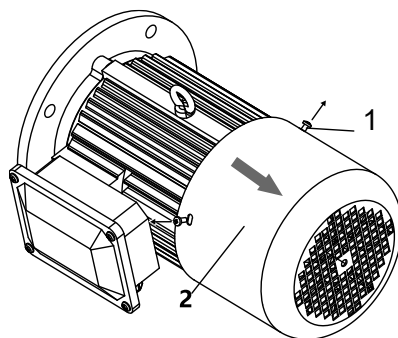

Fig. 6-24a
- See Fig. 6-24a, loosen the retaining bolts ① and remove the fan cover ②;